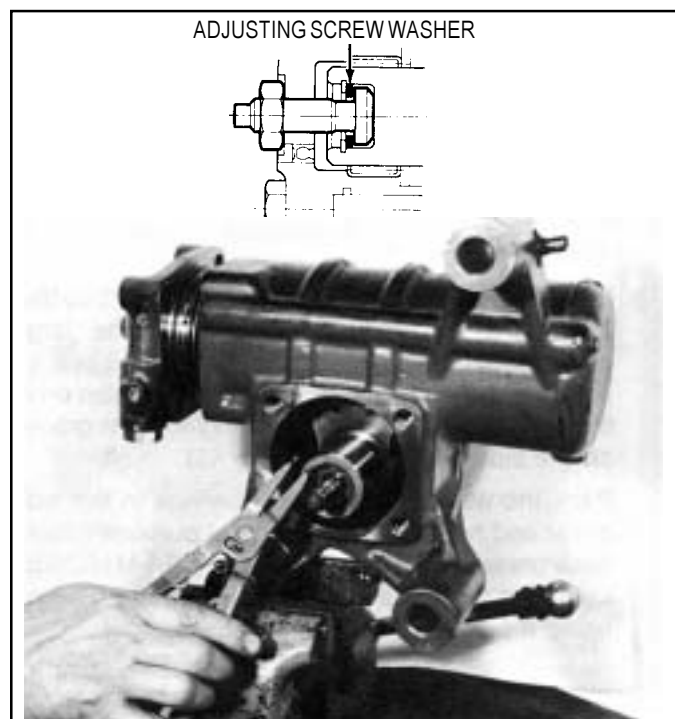

FIGURE 44
8. Install into the output shaft(35), the adjusting screw(36), the adjusting screw spacer(37) and the snap ring(38). Spacer(37) thickness is to be selected so that the axial play of the adjusting screw is between 0 and .0025 inch after the snap ring is installed. (See Figure 44)